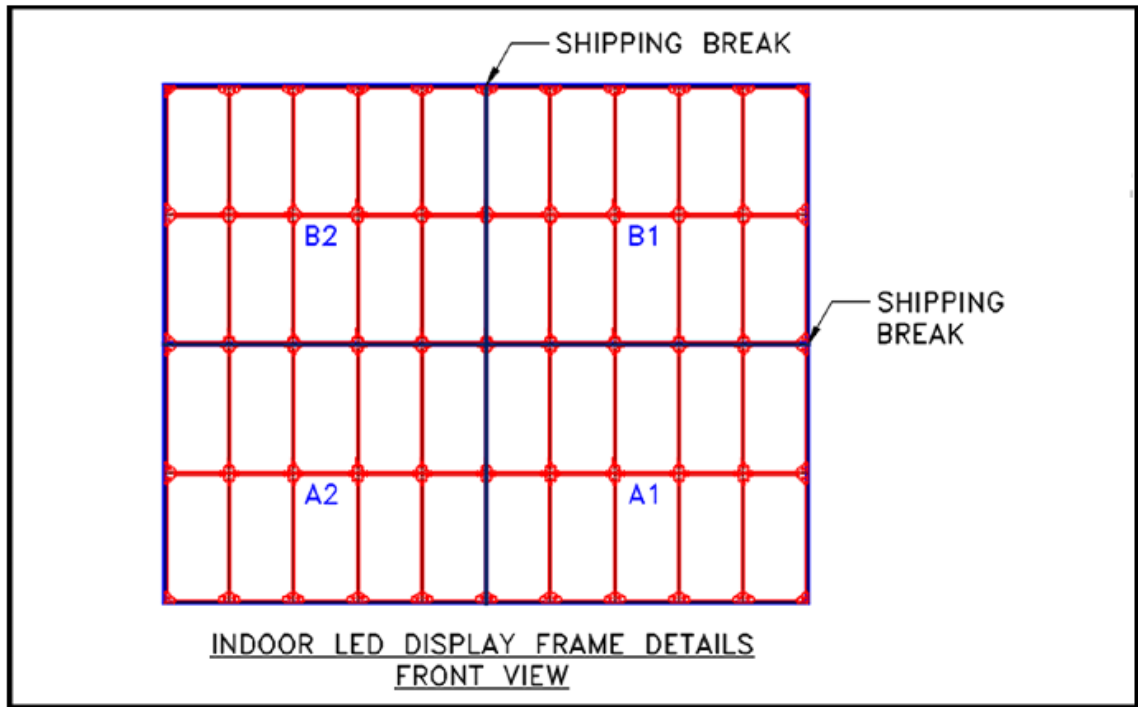

FIGURE 22 — INSTALL LED DISPLAY SECTIONS
The LED display can also be retro-fitted into an existing enclosure. The LED display must be anchored using its mounting frame and not the cabinet. See Figure 22 on page 25.
- All split cabinet sections must be installed in their correct location. See the installation and frame drawing specific to your order for detailed information. See Figure 22 below for generalized shipping section layout.